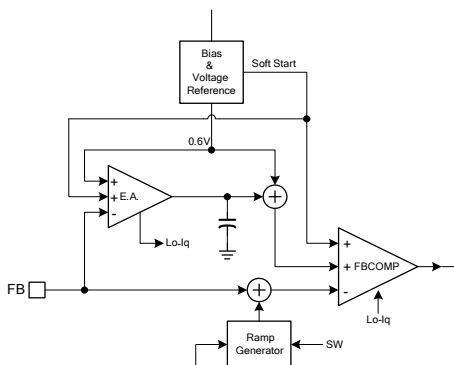

Figure 2: Operation Blocks in Sleep Mode
The MP21600 features sleep mode to achieve high efficiency at extremely light loads. In sleep mode, most of the circuit blocks are turned off, except for the error amplifier (EA) and PWM comparator. Therefore, the operation current is reduced to a minimal value (see Figure 2).